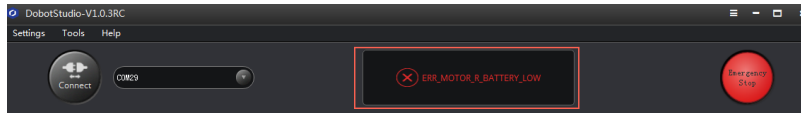

Figure 6.1 Alarm tips
Step 1 Double-click the alarm tip on the M1Studio page, as shown in Figure 6.1. The **Alarm Log** is displayed.